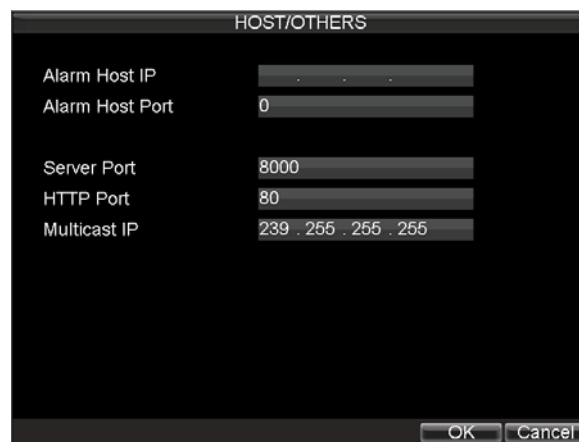

Figure 9. Host/Others Menu
3. Click the Set butt next to **Host/Others** to enter the Host/Others menu, as shown in Figure 9.